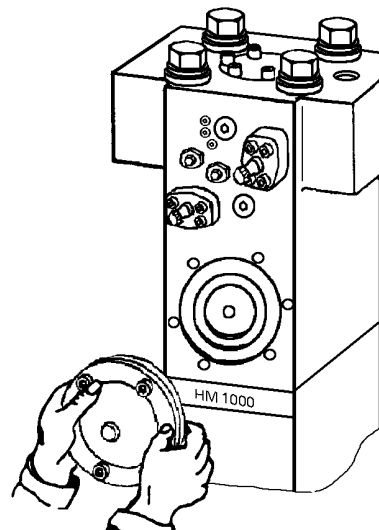

Fig. 7
- Remove high-pressure accumulator (Fig. 7).